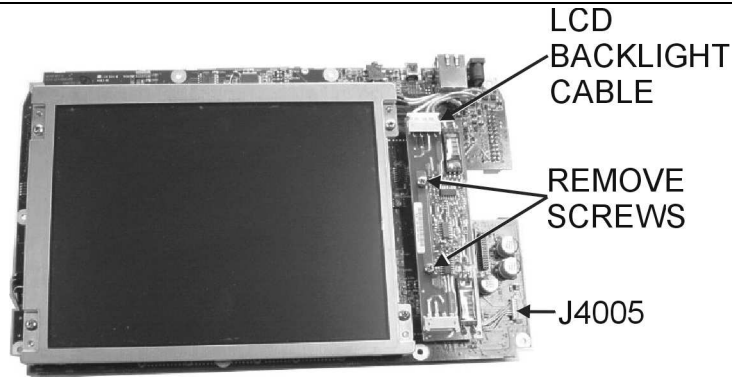

Figure 20. LCD Backlight PCB Removal and Replacement
3. Disconnect the LCD backlight cable from the LCD backlight PCB (Figure 20).